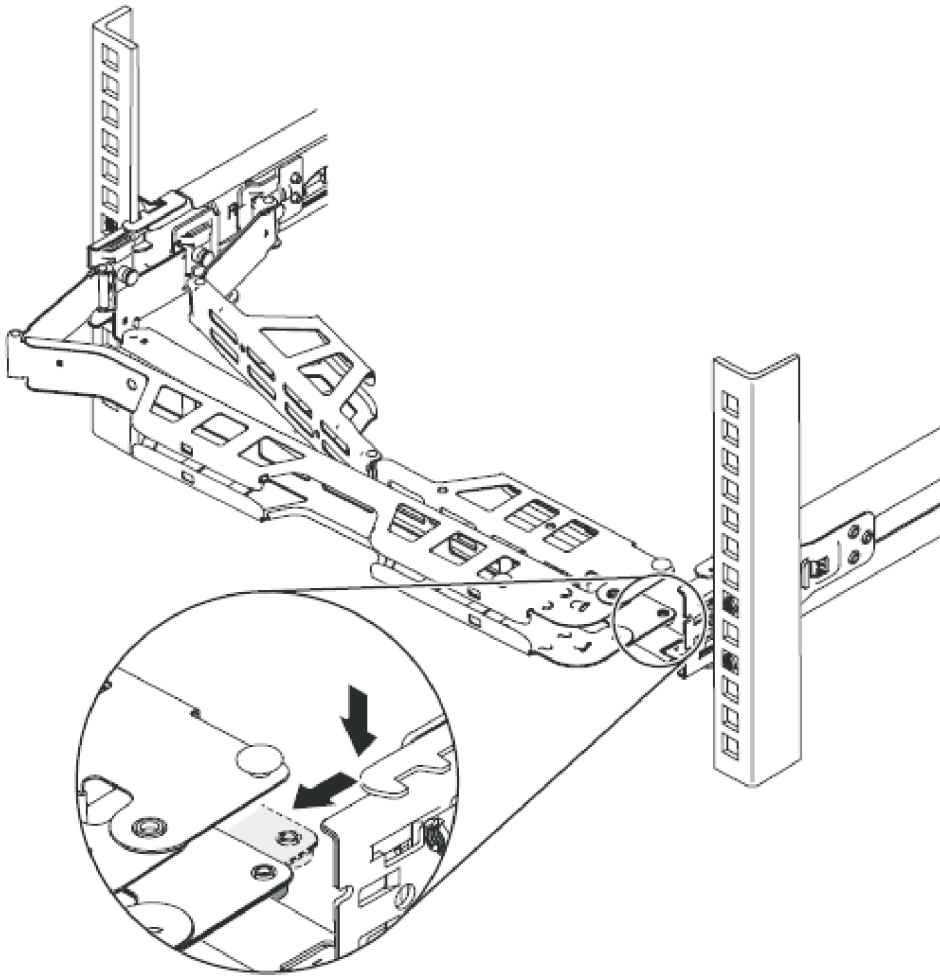

Figure 39. Adjusting the location of the cable-management arm
3. Adjust the location of the cable management arm, as shown in Figure 39 on page 50.